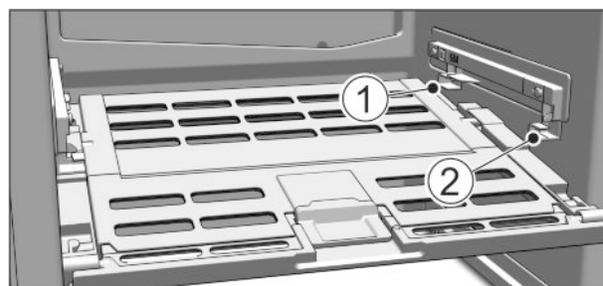

Fig. 15
- ▶ Inserting the Fruit & Vegetable-Safe cover: Insert the guide pieces into the rear retainer *Fig. 15 (1)* from below, then snap the plate into the retainer *Fig. 15 (2)* in the front.